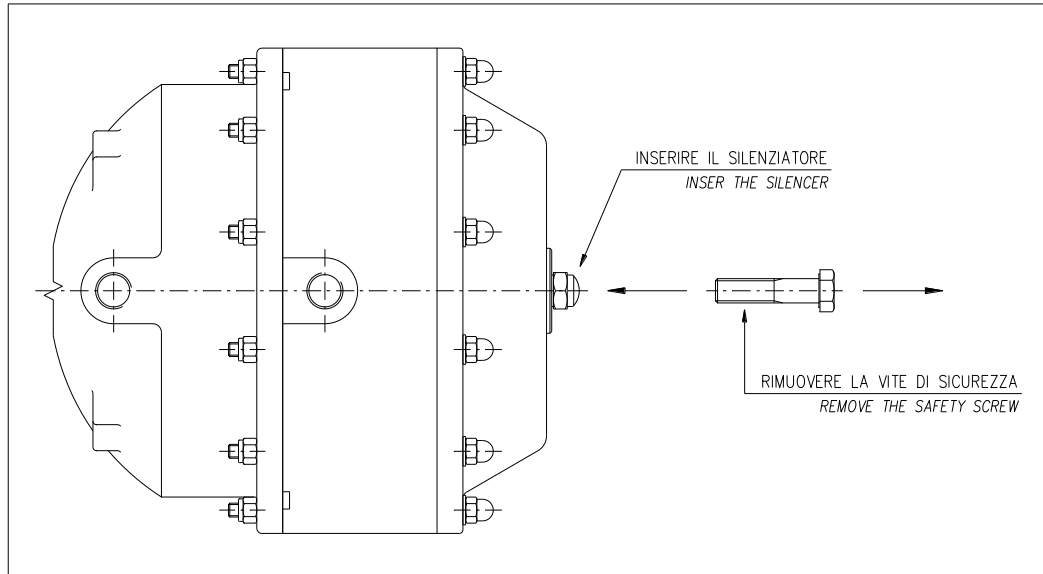

Figure 4
9. Power up the thruster and substitute the safety screw TE M14 with the silencer C61846 (Figure 4).